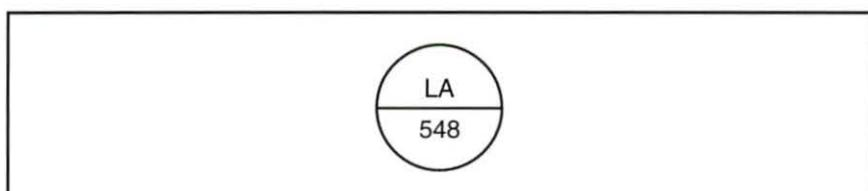

Figure 68. Instrument Tag
8. Determine the measured variable and function of the device using the instrument tag in figure 68.